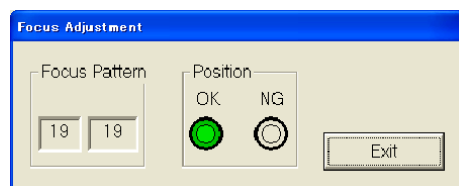

Fig. 4-7-3
- 3) Set the zoom position to Wide end and the focus position to infinity end, then check that the OK (Green) indicator of “Position” lights as shown in Fig. 4-7-3.